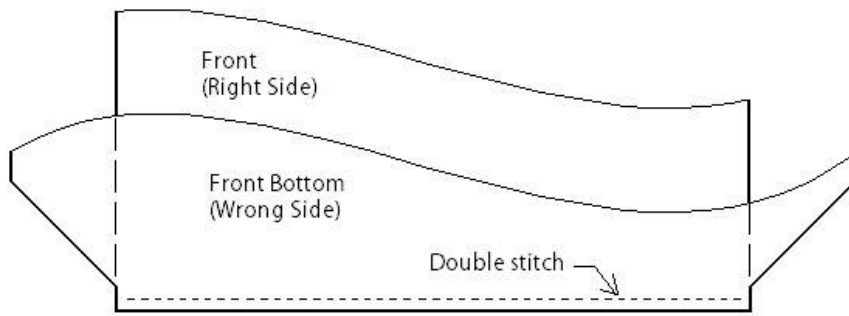

Figure 16. Constructing the front panel.
- 5.3.1 Sew ripstop front bottom onto front panel, right sides together, as shown in *Figure 16*. The front pocket should be in between the two pieces. Double stitch.